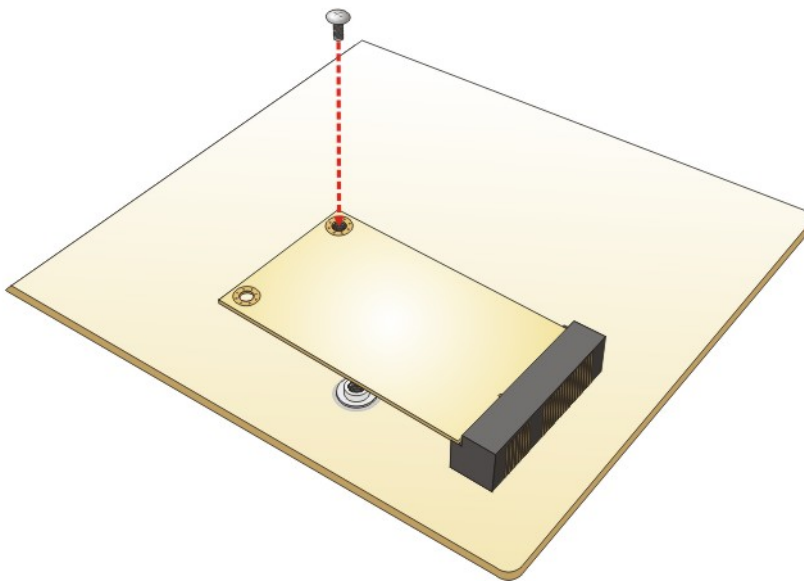

Figure 4-10: Securing the Full-size PCIe Mini Card
Step 4: Secure the full-size PCIe Mini card. Secure the full-size PCIe Mini card with the retention screw previously removed (Figure 4-10).